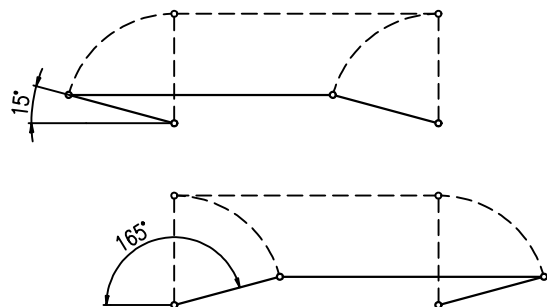

Fig.3
- While installing take care to have the angle between the lever and the pull-rod at least 15° and at most 165° (Fig.3).